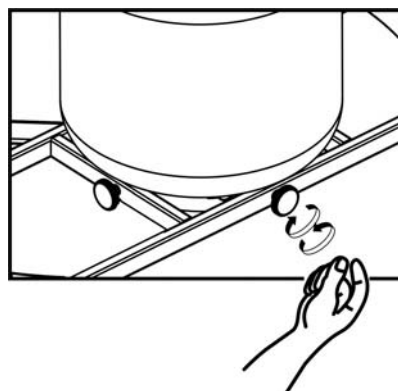

Figure 5
6. Tighten the threaded knobs found on the tank tray (Figure 5) so that the LP tank cannot move from side to side. Do not remove the plastic cap from the end of the threaded section.